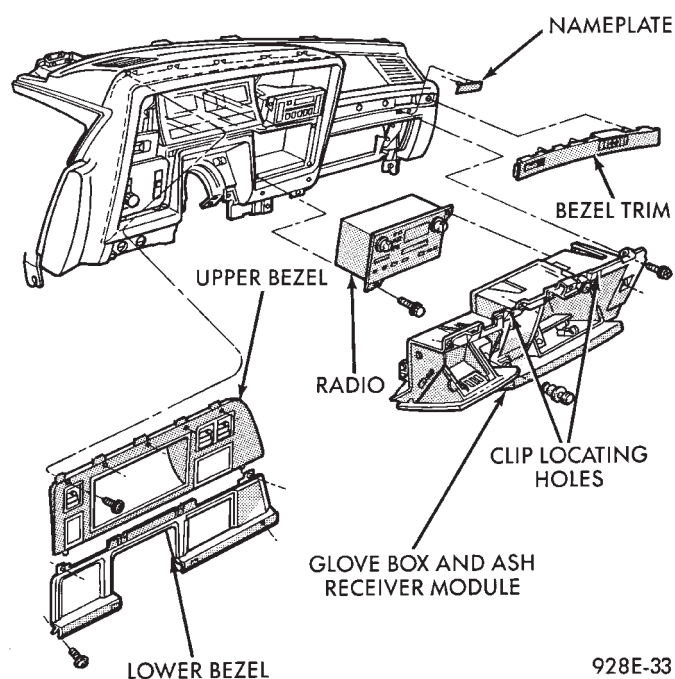

Fig. 8 Cluster Bezel
- (1) Move gear selector to the low position.
- (2) Remove five screws attaching upper bezel to instrument panel (Fig. 8).
- (3) Lift cluster bezel over steering wheel.
- (4) Remove four screws attaching lower bezel to instrument panel.
- (5) Lift lower cluster bezel from instrument panel.
- (6) For installation reverse above procedures.